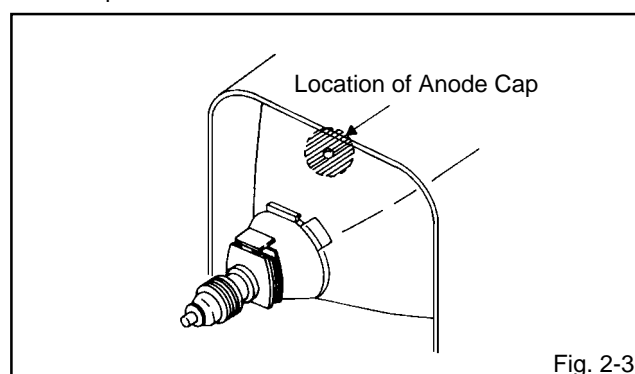

Fig. 2-3
1. Clean the spot where the cap was located with a small amount of alcohol. (Refer to Fig. 2-3.)